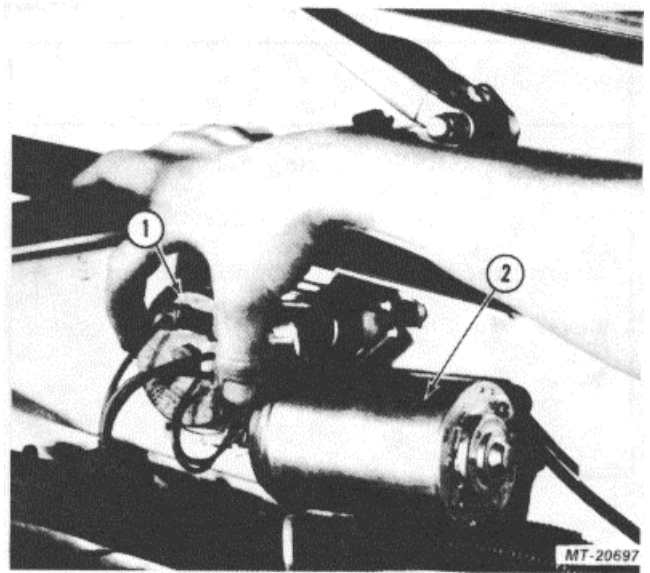

Fig. 8. Adjusting Wiper Blade Park Position
2. If adjustment is required, loosen motor cover mounting screws and turn cover clockwise or counterclockwise as required to set correct "park" position (Fig. 8). Retighten cover screws. (Length of stroke is fixed and cannot be changed.)